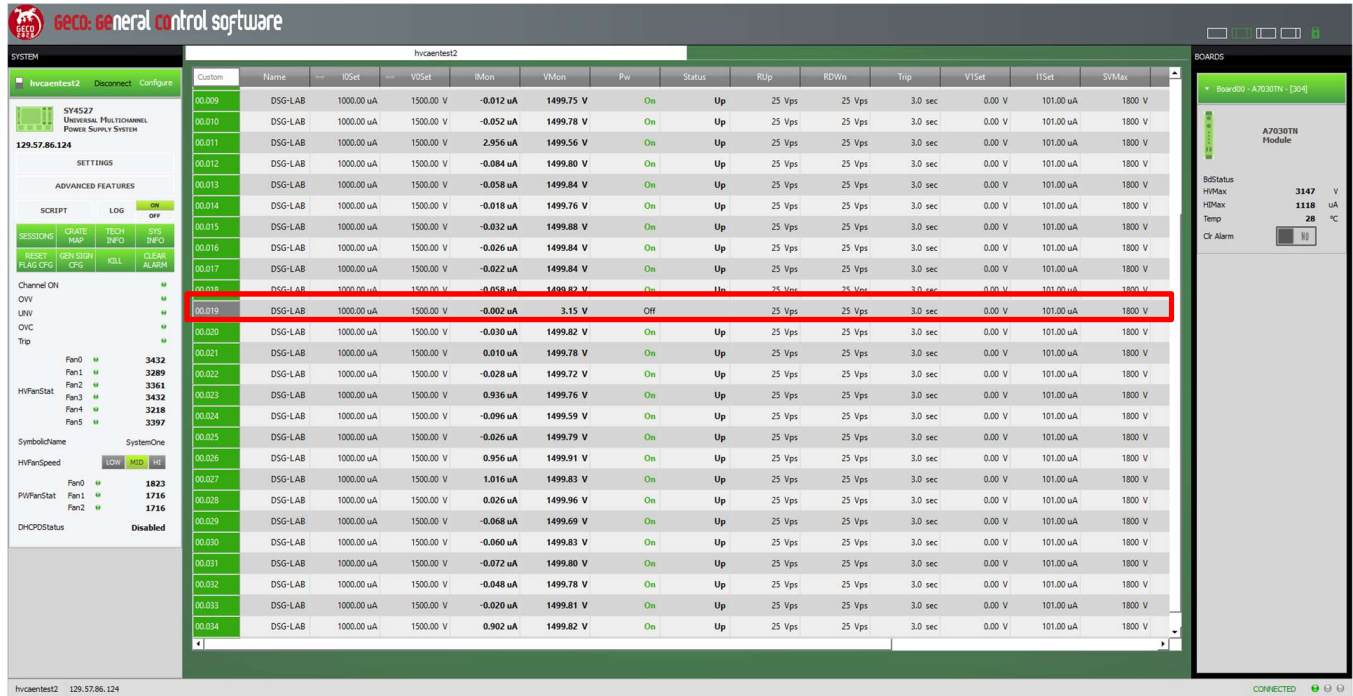
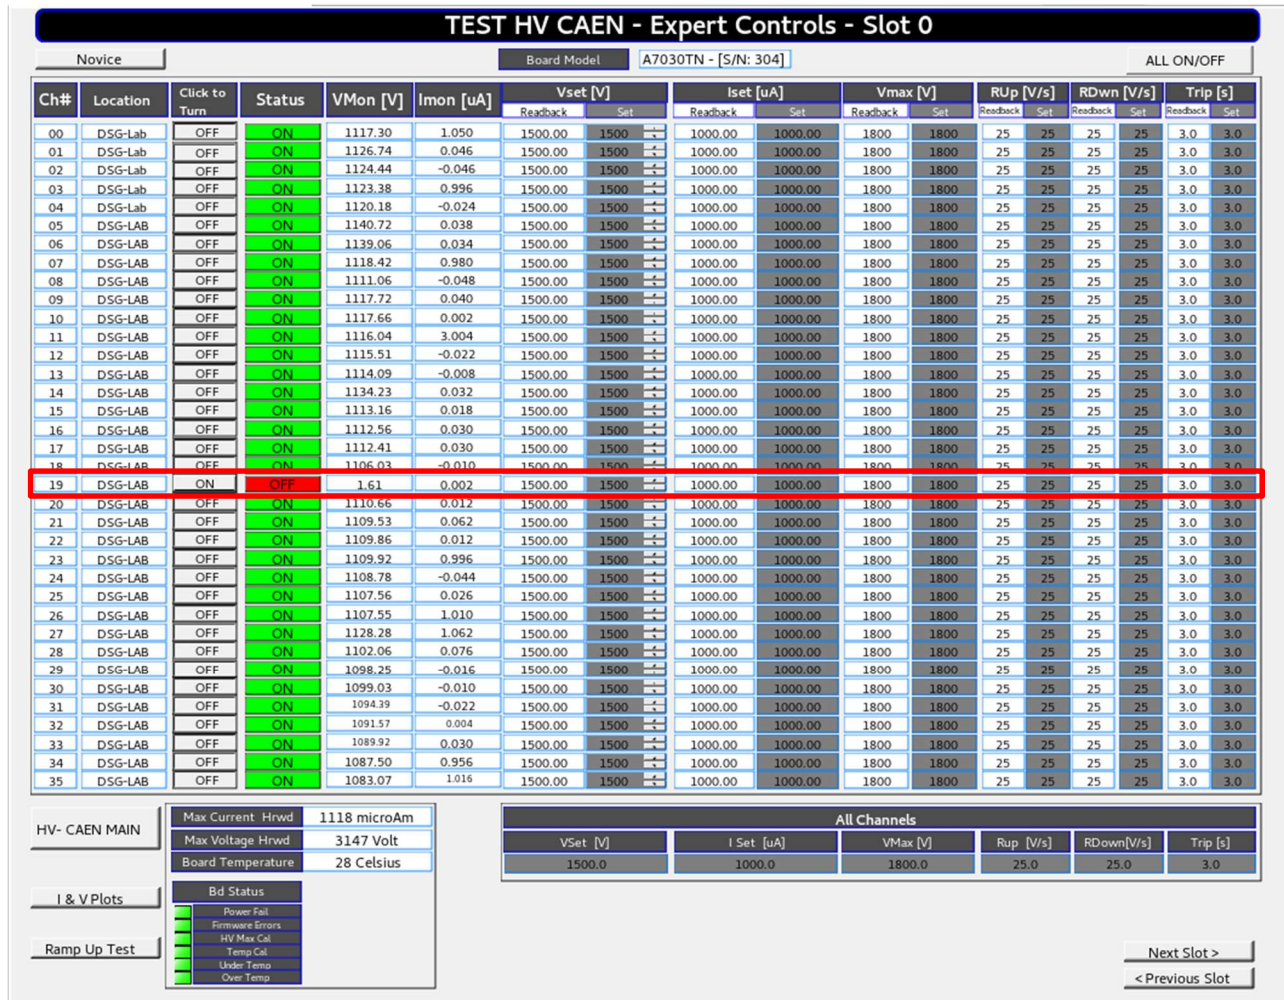

Fig.9 — GECO2020 screenshot shows channel 19 is off after all channels were set to turn-on from JavaScript at CSS screen.
Fig.10 — *Expert Controls CSS-BOY* screen shows channel 19 off status after all channels were set to turn-on simultaneously
- 1.4. Verified that nether PV and GECO value went to set point. See fig.9 and fig.10.